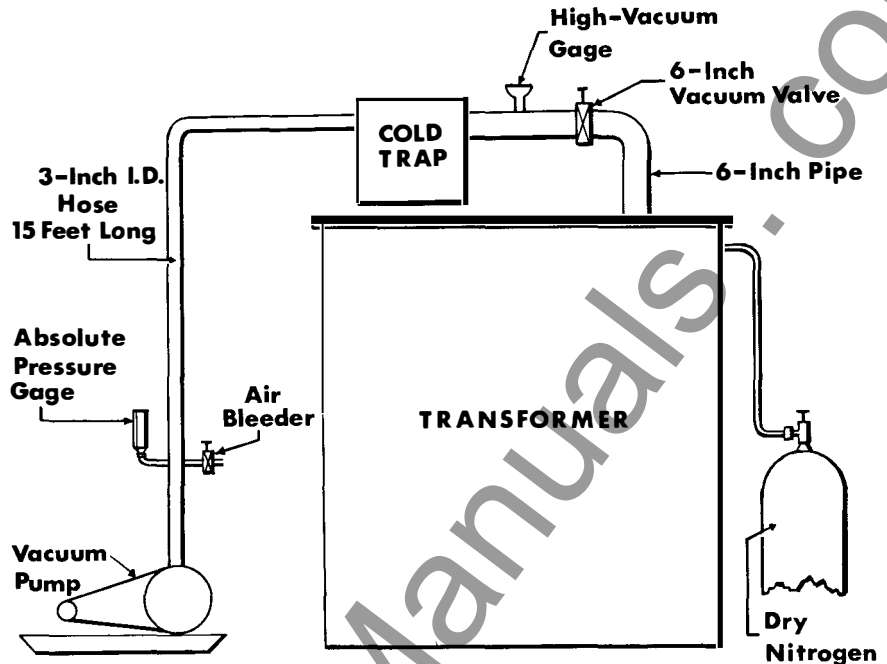

Fig. 6. Schematic arrangement of equipment used in high vacuum and cold trap drying method.
Drain the oil from the transformer, filling the tank with *dry* nitrogen as the oil is drained. Connect the cold trap and vacuum pump to a suitable pipe connection on the tank. To minimize line losses and speed up the dryout, the trap should be located as close to the transformer tank as possible. Fig. 6 shows the schematic layout of the drying equipment. Seal the transformer and test the entire system for leaks. The use of a leak detector similar to the General Electric Type H2 or H4 probe would be helpful. All leaks must be eliminated or the required vacuum may never be attained. Apply Duxseal compound to the valve stems on the transformer tank to prevent leaks at the packings. Coat joints with an adhesive paint if necessary, such as G-E No. A15A11A (880) compound or equal.